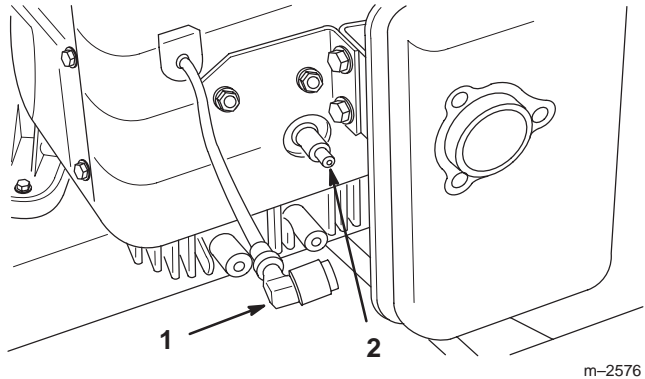

Figure 36
2. Pull the wire(s) off the spark plug(s) (Fig. 36). Now clean around the spark plug(s) to prevent dirt from falling into the engine and potentially causing damage.
3. Push the wire(s) onto the spark plug(s) (Fig. 36).